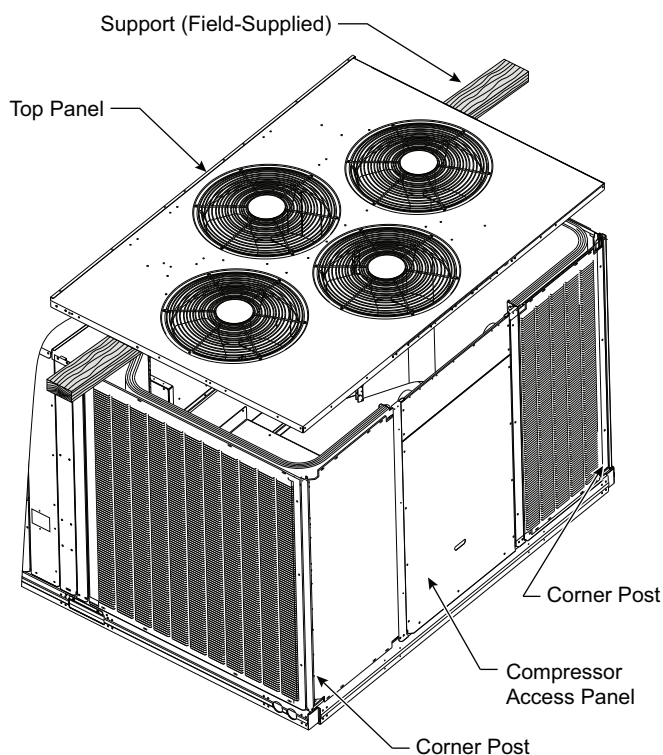

Fig. 22 — Top Panel Removal
3. Lift the top panel at the condenser fan end and support the top panel so it remains level while resting on the condenser fans as shown in Fig. 22.
4. Remove the compressor access panel to access the lower coil clips. The condenser coil corner post may also be removed. See Fig. 22.